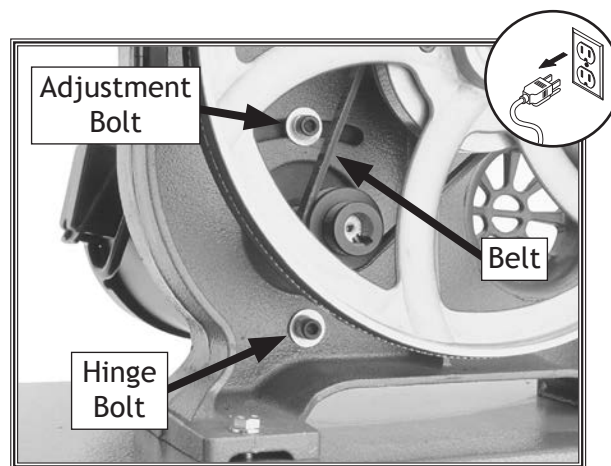

Figure 53. Belt tensioning controls.
2. Open the lower wheel cover and loosen the motor mount bolts (adjustment and hinge) shown in **Figure 53**.